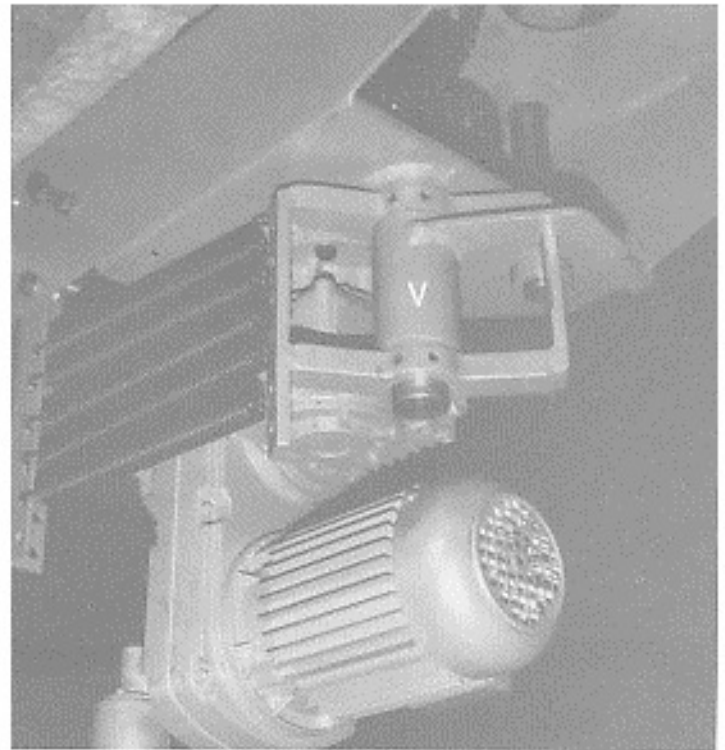
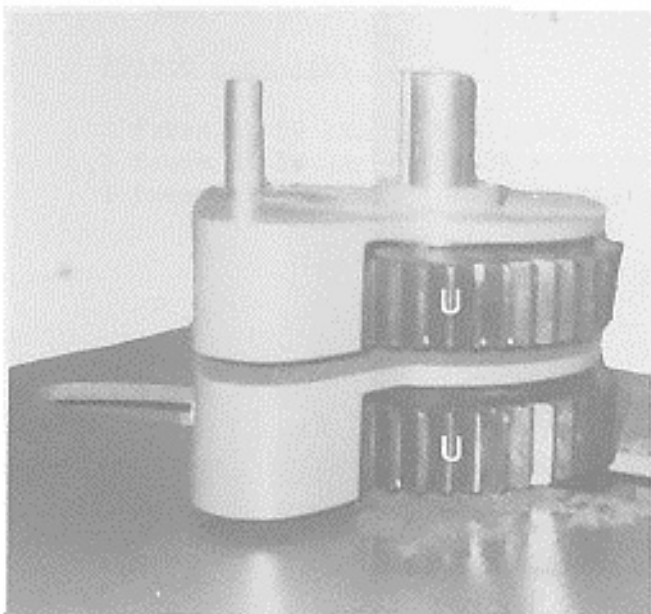

FIG 29
FIG 28
- 2) Feed rollers ('U' Fig.28). are mounted on a swinging arm ('V' Fig.29). to cater for up to 4 inches (100mm) variance in stock width.
- 5) Varying pressures of the swing arm unit can be accommodated by repositioning or removing the springs (Fig.29). Six springs are set on the lower setting. This should be sufficient for most timbers generally cut.